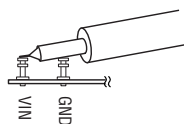

Figure 2. Measuring Input or Output Ripple
**NOTE.** When measuring the input or output voltage ripple, care must be taken to avoid a long ground lead on the oscilloscope probe. Measure the input or output voltage ripple by touching the probe tip directly across the  $V_{\text{IN}}$  or  $V_{\text{OUT}}$  and GND terminals. See Figure 2 for proper scope probe technique.